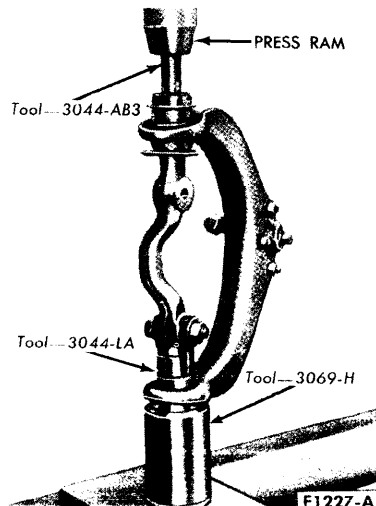

FIG. 9—Removing Upper Arm Front Bushing
2. Assemble the remover, tool 3044-LA, to the shaft at the front bushing. Press the bushing out of the arm using the support cup, tool 3069-H, and the remover tool 3044-AB3 (Fig. 9).